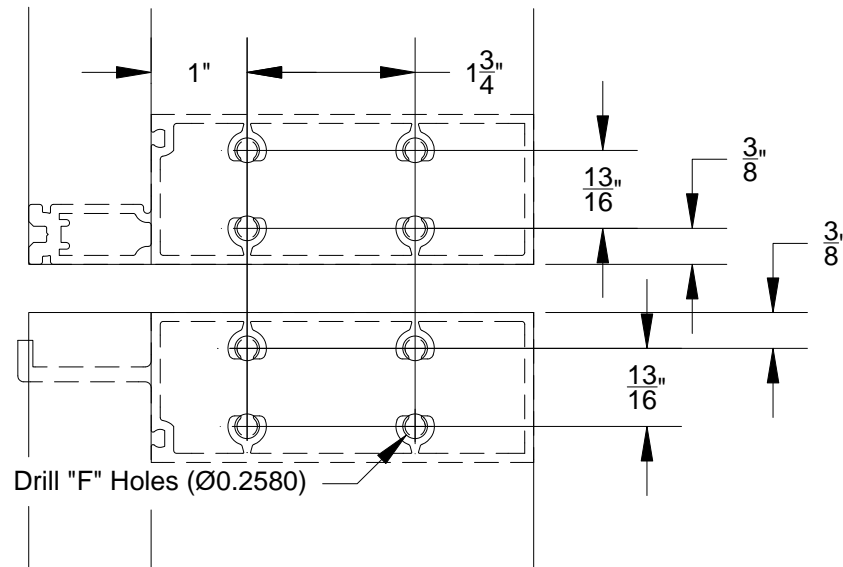

FIGURE 17
- 2.27 When using the WW-427 & WW-428, horizontals for the expansion horizontal connection fabricate top and bottom of mullion as shown in **FIGURE 17**. If using WW-527 & WW-528 fabricate per **FIGURE 18**.